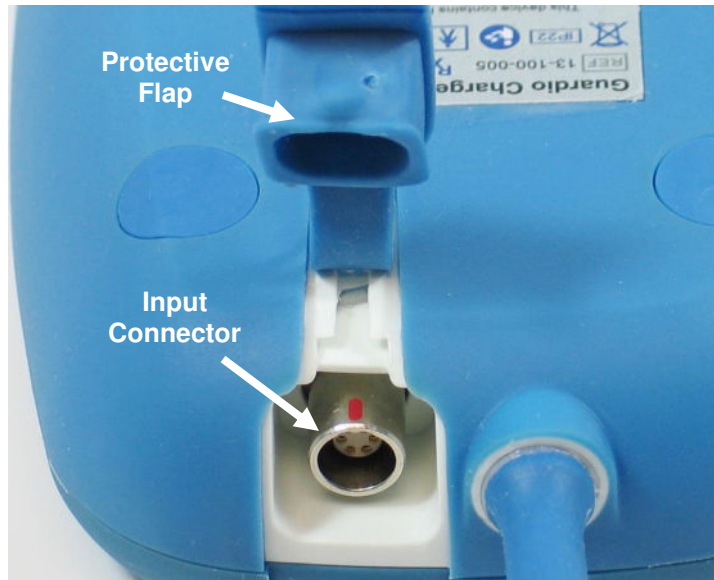

Figure 82: Back of the Guardio/Vesta Charger
4. Remove the protective cover flap from the input connector of the charger located next to the base of the charging wand cable. **See Figure 82.**